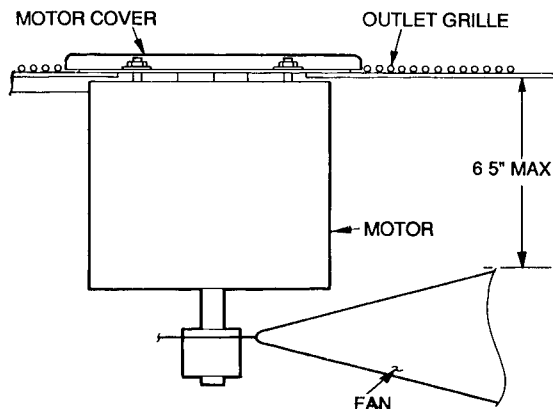

Fig. 27 — Condenser-Fan Adjustment
Condenser-Fan Adjustment (Fig. 27)
3. Adjust fan height as shown in Fig. 27.